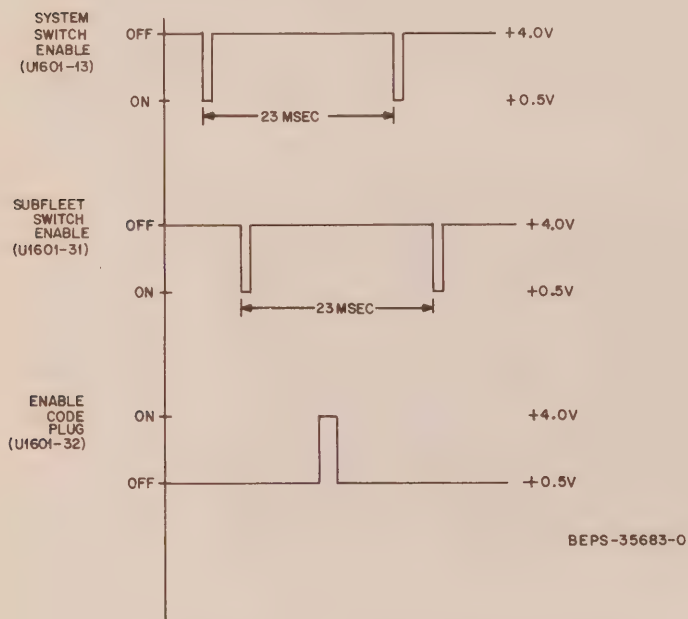

Figure 10. Timing Diagram
3.15.3 When U1601-13 is low, the buffers connected to the system switch output pins are enabled and the four data bits from the switch are applied to the microcomputer. When U1601-31 is low, the buffers connected to the subfleet/individual switch output pins are enabled and the four data bits from the switch are applied to the microcomputer. Both switches are read during each OSW word frame period (or every 23-1/3 milliseconds). The output signals of U1601-13 and U1601-31 are negative-going pulse trains with a period of 23-1/3 milliseconds as shown in Figure 10. The microcomputer can address and read the PROM when U1601-13 and U1601-31 are high as shown in Figure 10.